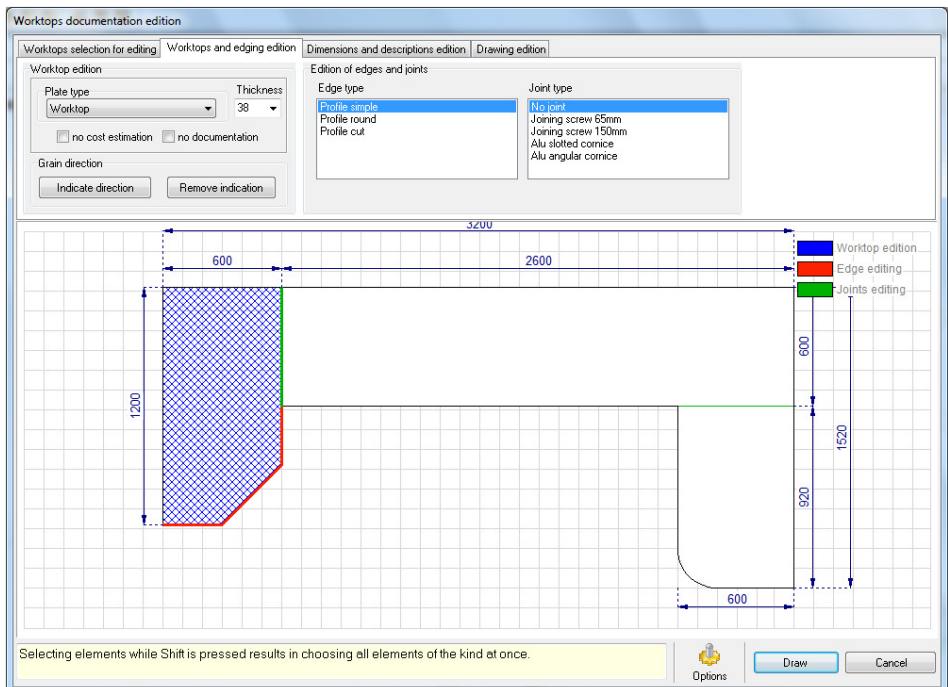

Fig. 223 – Worktops documentation window
After clicking the **Worktops documentation**  icon, you will gain access to worktops drawings editor (Fig. 223), in which you can create and edit technical drawings of worktops, existing in the project, which can be added to the overall technical documentation.
- selected edges turn red, and connections between worktops – green (Fig. 223).